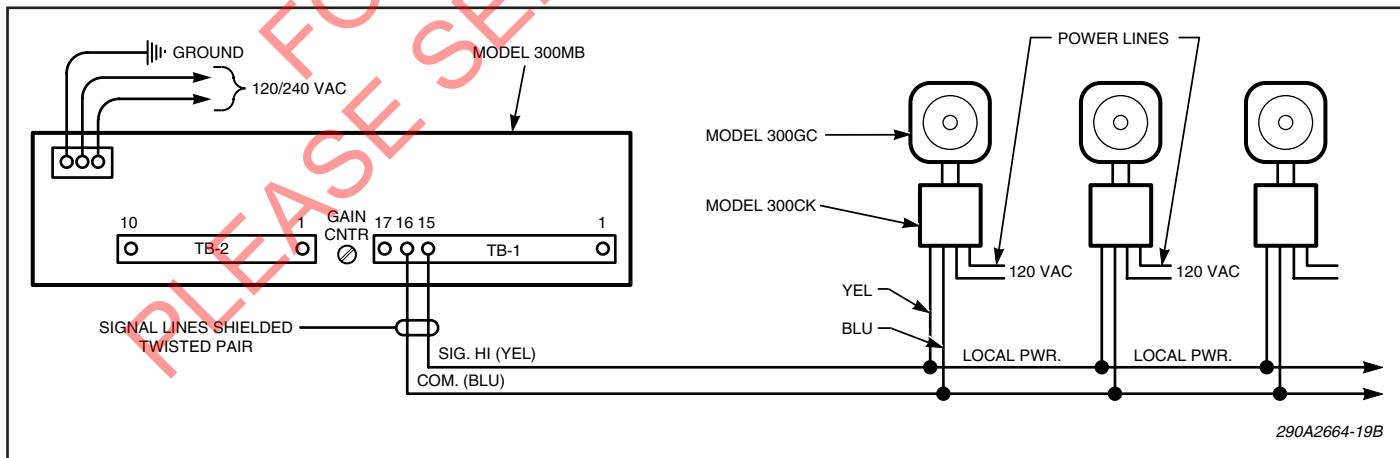

Figure 3-5. Typical SelectTone Installation.
A. SelectTone Installation (see figure 3-5).